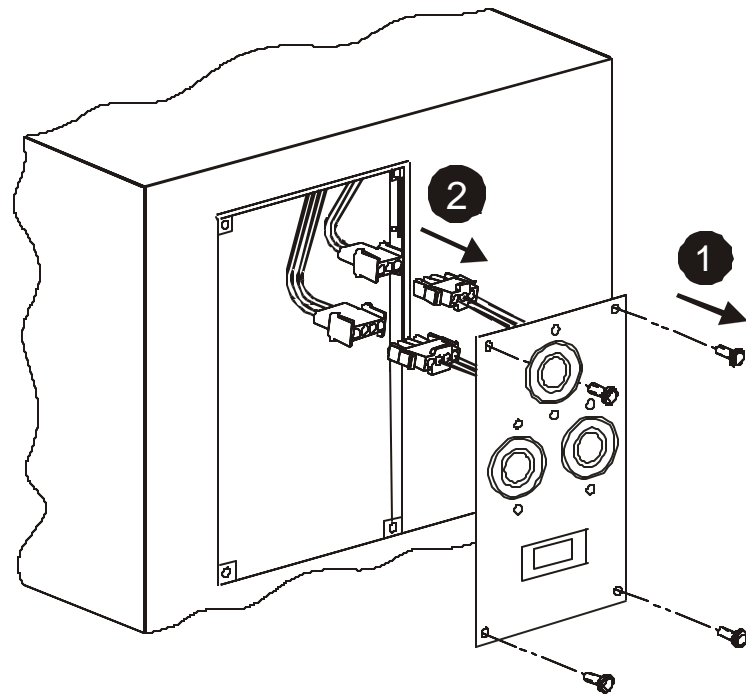

Figure 3.1 Remove Existing PDU
1. Remove the 4 screws that retain the PDU panel as shown in Fig. 3.1 and set aside.